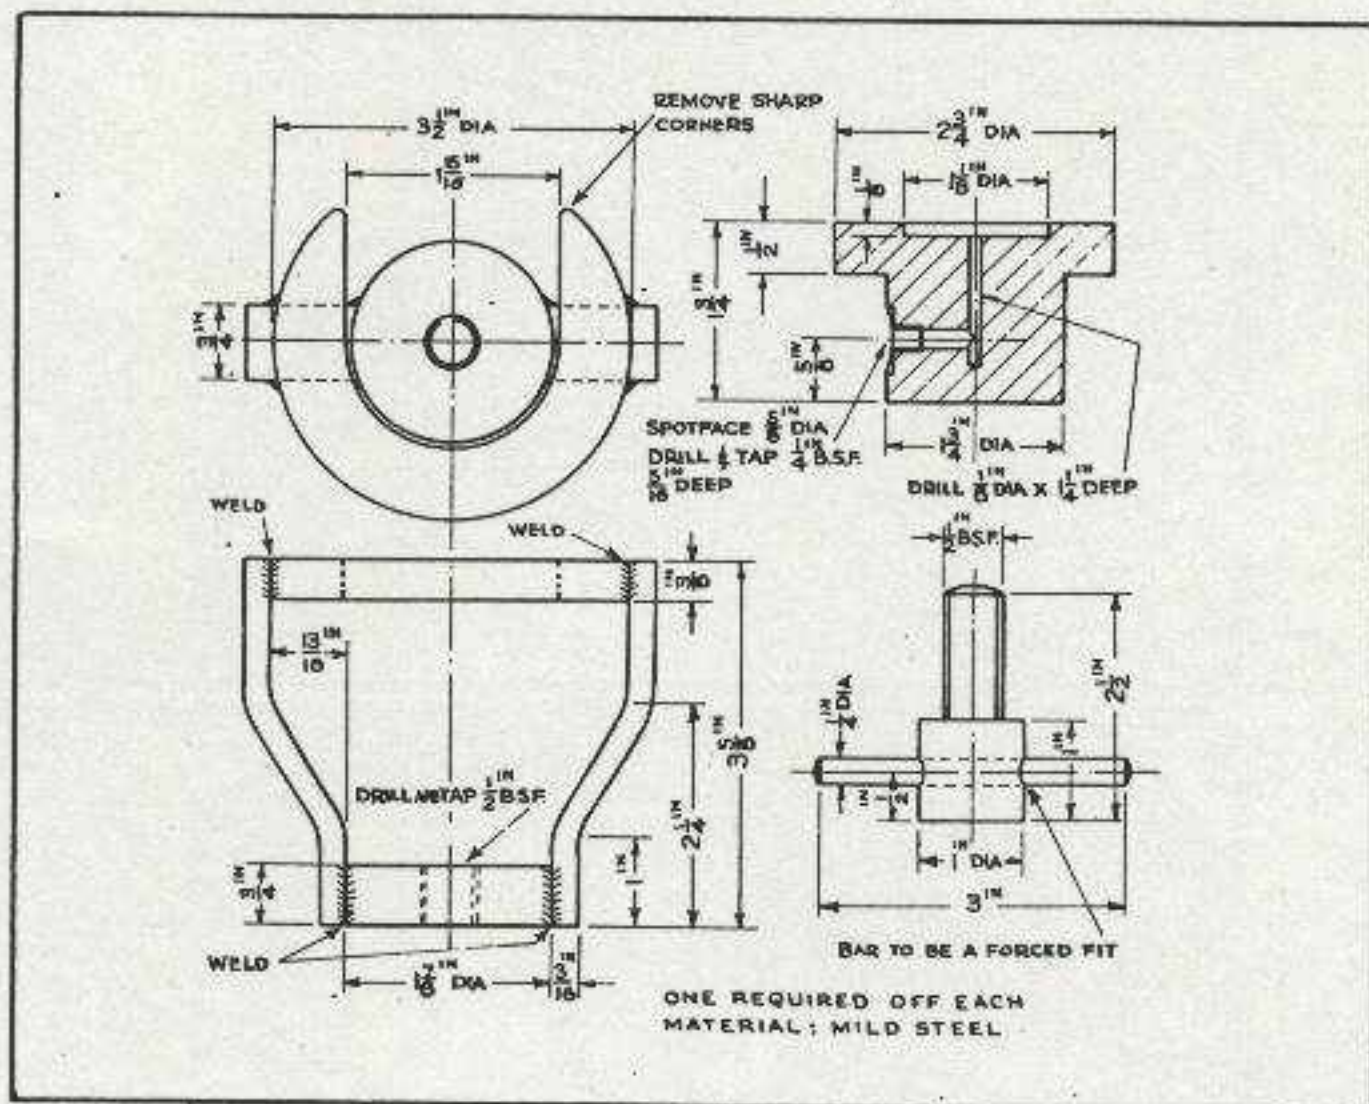

FIG. 49 - SWITCH, LOW-PRESSURE - CLAMP FOR PRESSURE SETTING CONTACTS
- (a) Manufacture a clamp, see Fig. 49.